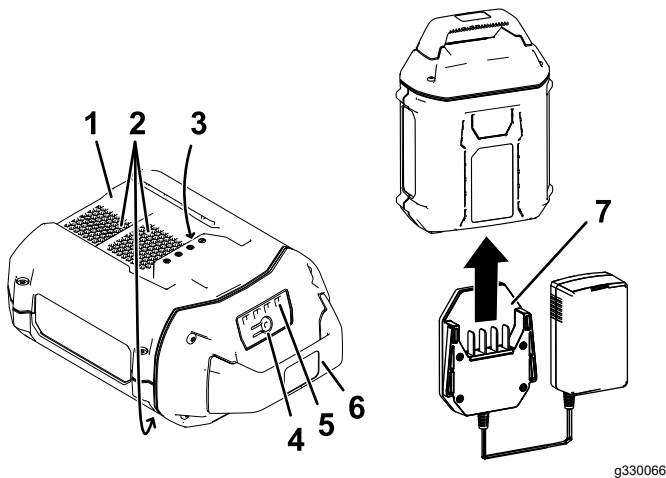

Figure 9
2. Line up the charger with the cavity on the back of the battery pack (Figure 9).
3. Slide the charger into the battery pack until it is fully seated (Figure 9).